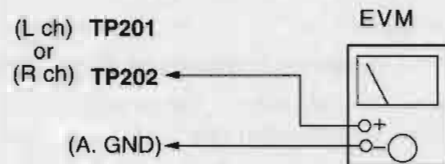

Fig 5
1. Connect the measuring instrument as shown in Fig 5.